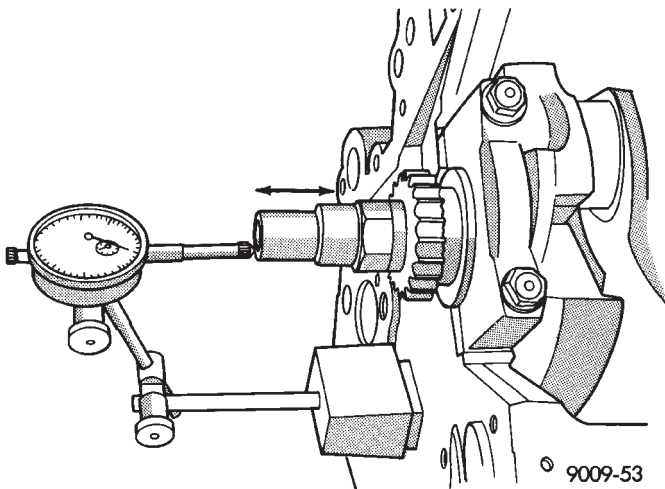

Fig. 9 Checking Crankshaft End Play
(1) Mount a dial indicator to front of engine, locating probe on nose of crankshaft (Fig. 9).
(2) Move crankshaft all the way to the rear of its travel.
(3) Zero the dial indicator.